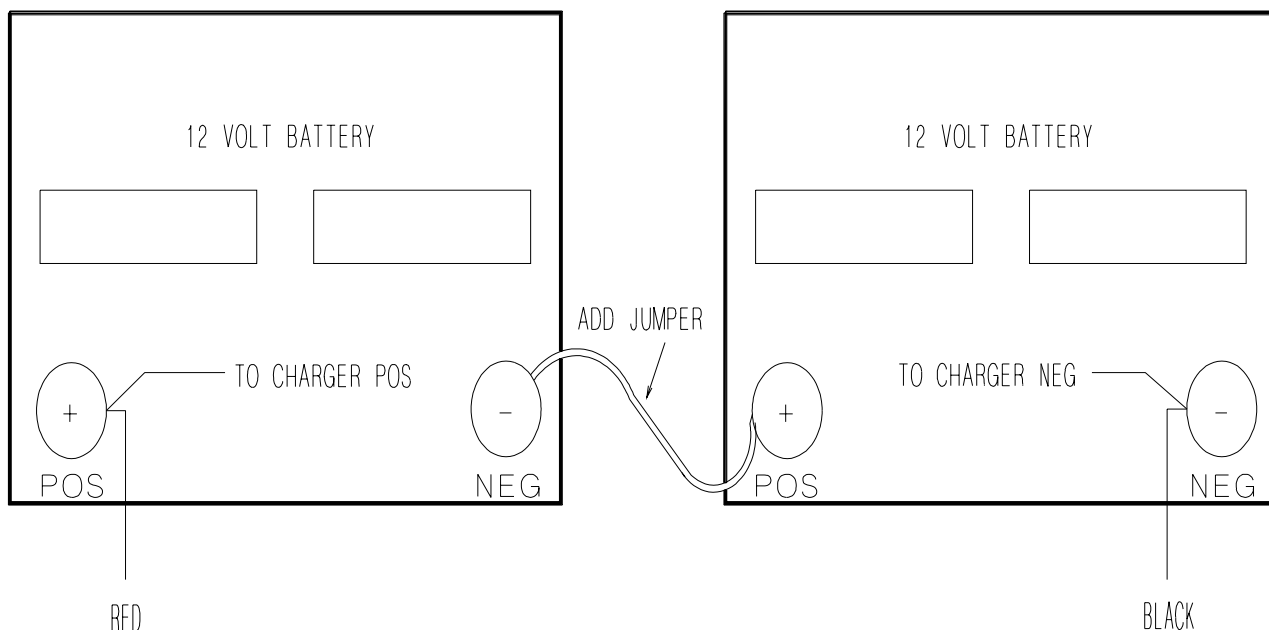

Figure 28
- 1) Mount the two (2) 12V DC batteries in the Actuator Control Box on the proper shelves.
- 5) Use Figure 28 to guide installation.